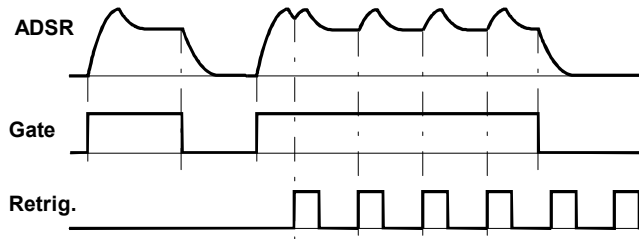

Fig. 2: Envelope re-trigger system
② Retrig.
Socket ② is the ADSR's **retrigger input**, which can be connected, for instance, to the output from an LFO. That means that *while the gate is open*, the envelope re-triggers every time it senses a pulse from the LFO (see Fig. 2).